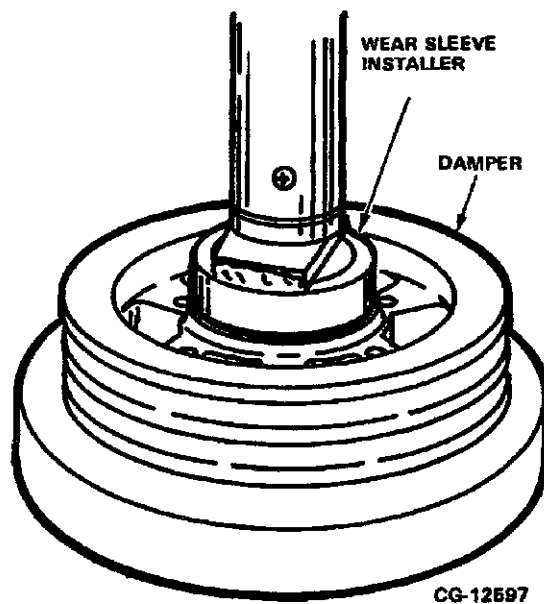

Figure 7.49. Install a New Vibration Damper Wear Sleeve
- b. Apply Aviation Permatex™ No. 3 to the I.D. of a new wear sleeve and press into the vibration damper using wear sleeve installer ZTSE-3004-A. Refer to Figure 7.49.